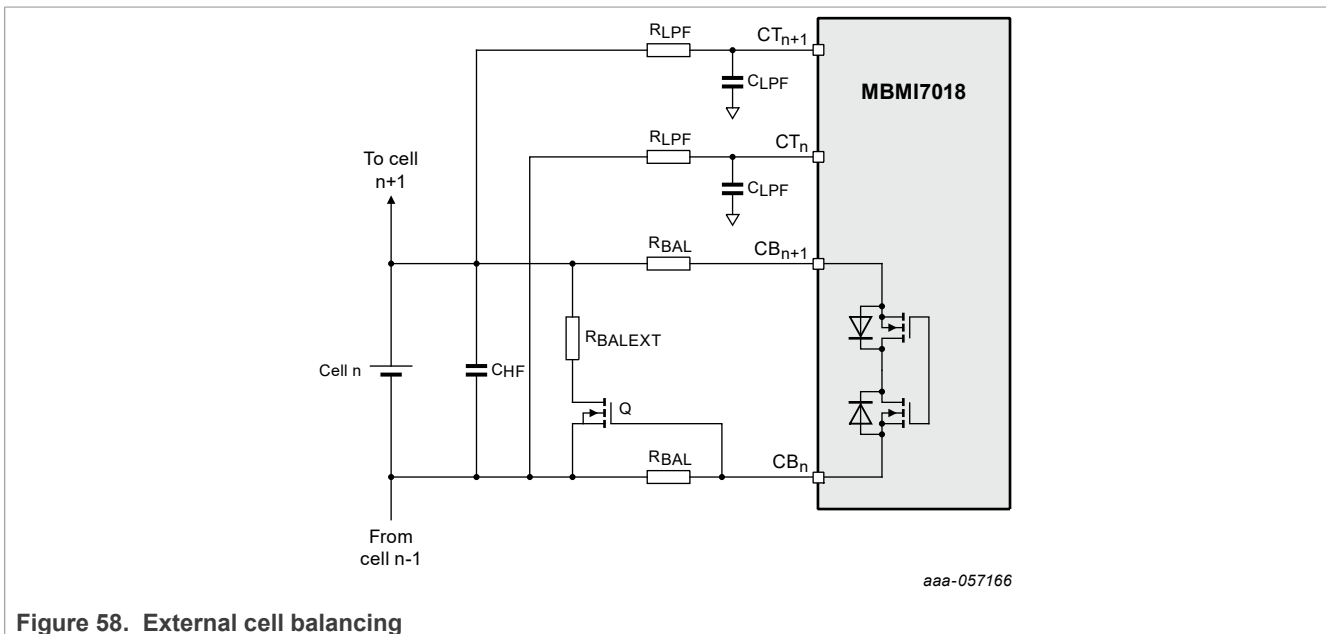

Figure 58. External cell balancing
Figure 58 shows the principle of such implementation with an NMOSFET (Q) as external cell balancing transistor. The NMOSFET is switched on synchronously with the internal cell-balancing switches, when the voltage drop across R_{Bal} reaches the NMOSFET V_{gs} threshold of the NMOSFET.